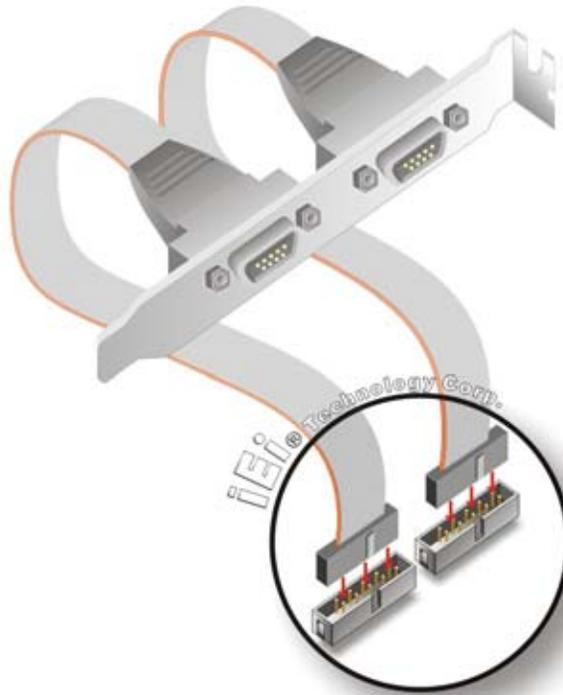

Figure 4-8: Dual RS-232 Cable Installation
Step 2: Insert the cable connectors. Insert one connector into each serial port box headers. See Figure 4-8. A key on the front of the cable connectors ensures the connector can only be installed in one direction.